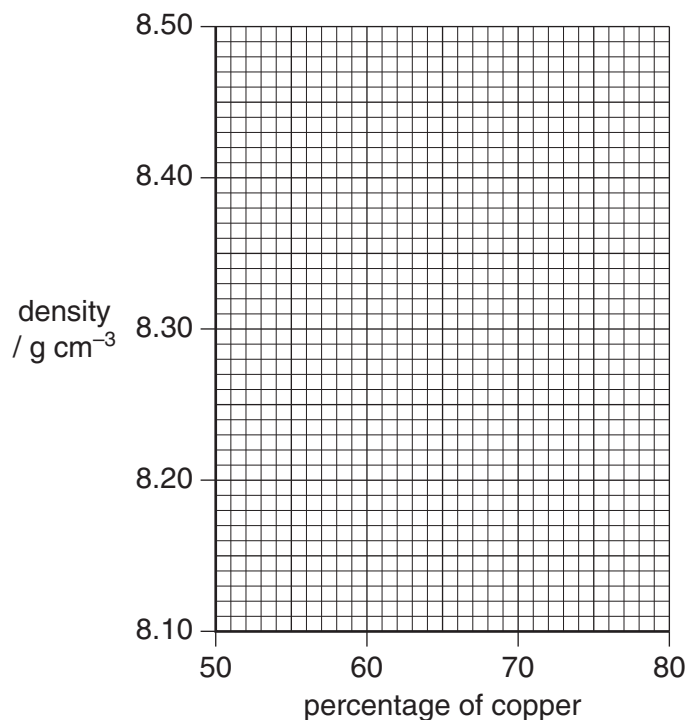

Fig. 3.3
Plot these values on the graph opposite, Fig. 3.3, and draw a straight line of **best fit** through as many points as possible.
- (ii) The students used the graph, Fig. 3.3, to find the percentage of copper in a brass gas tap.
- (iii) Use your graph, Fig. 3.3, and your result to (ii) to find the percentage of copper in the brass tap. You should show how you used the graph to obtain the answer.